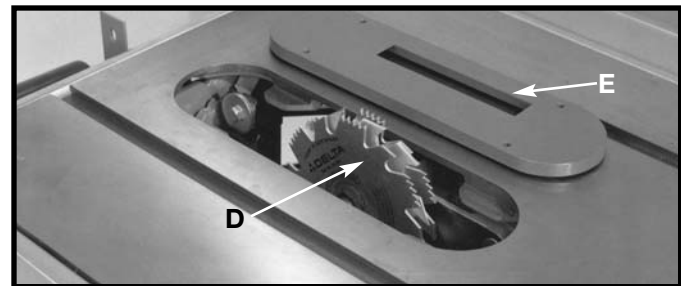

Fig. 88
2. Attach the dado head set (D) Fig. 88, to the saw arbor. **NOTE: THE OUTSIDE ARBOR FLANGE CAN NOT BE USED WITH THE DADO HEAD SET, TIGHTEN THE ARBOR NUT AGAINST THE DADO HEAD SET BODY. DO NOT LOSE THE OUTSIDE ARBOR FLANGE. IT WILL BE NEEDED WHEN REATTACHING A BLADE TO THE ARBOR.**
⚠ CAUTION THE ACCESSORY DADO HEAD SET TABLE INSERT (E) FIG. 88, MUST BE USED IN PLACE OF THE STANDARD TABLE INSERT.